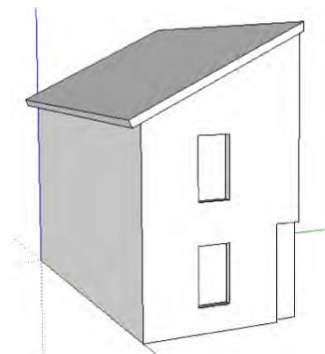

Figure 8–2. Half model of a house
1. The first step is to construct only half the model. The model in Figure 8–2 shows only half a house designed in SketchUp.
4. Now all you need to do is flip the copy of the model. You can use the Scale tool and invert the copy, or you can use Flip Along. Right-click the copy of the model, and from the drop-down menu select Flip Along. Select along the x-axis (red), y-axis (green), or z-axis (blue) (Figure 8–3).